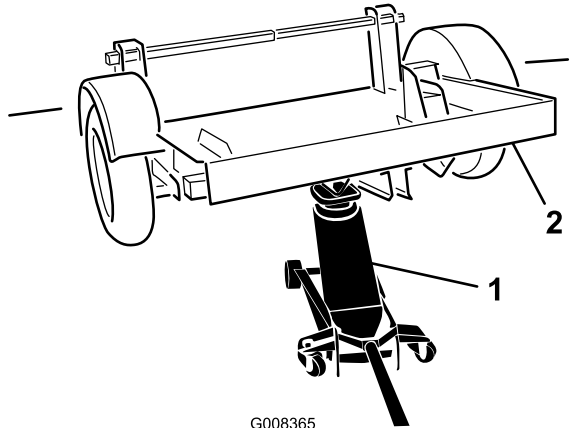

Figure 4
5. Using a jack or hoist, raise the front end of the trailer bed to allow the installation of the tongue (Figure 4).